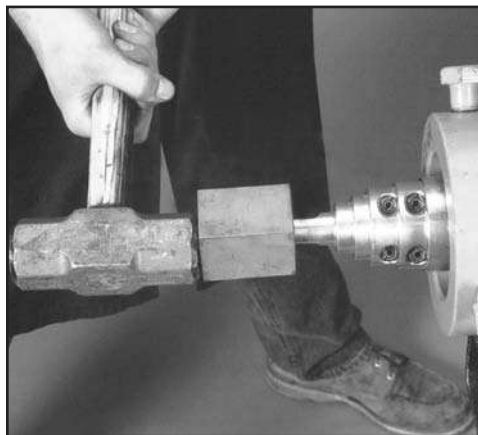

FIG. 22: IMPACT ARBOR
6. Position an impact arbor on the chisel head and give it several heavy blows (see Fig. 22).